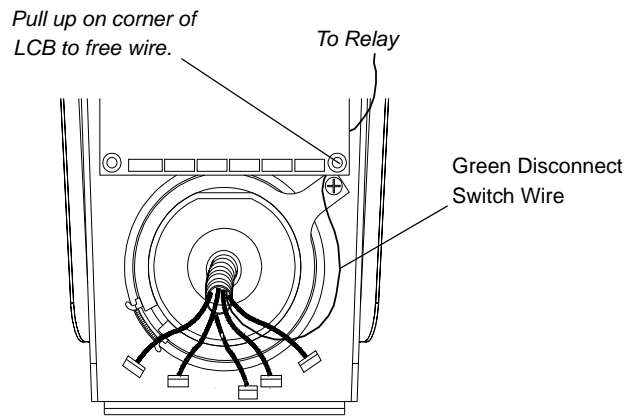

Figure 2-14: Freeing Disconnect Switch Wire
Step 7. At LCB, pull up on lower corner and free disconnect switch wire. **Figure 2-14.**